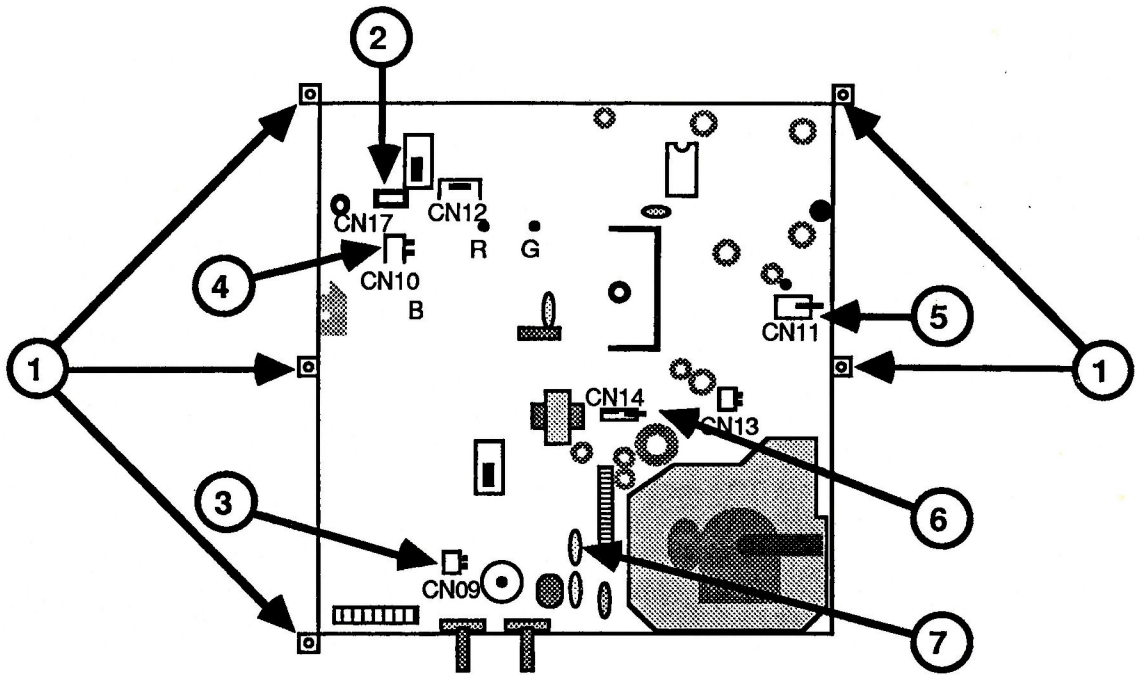

FIGURE 8
4. Disconnect CN14 from the logic board. (Figure 8, #6.)